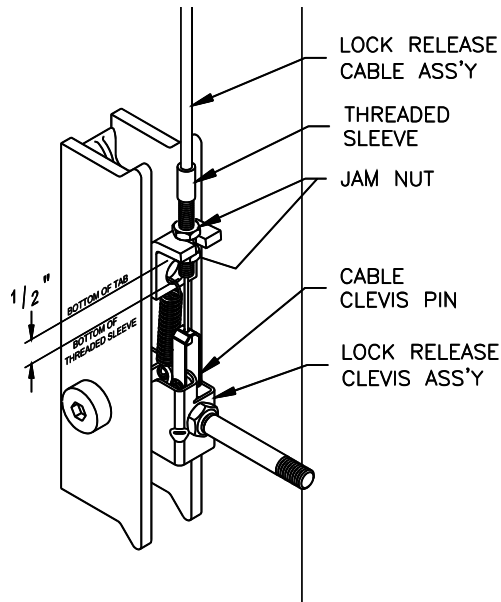

Fig 10 – Power Column Lock Assembly
- 27) Attach Mechanical Lock Release Cable Assembly to Power Column Lock Release Clevis using the 3/16" diameter x 1/2" long pin and (2) "C" clip retainers, **Fig 10**.
- 28) Insert threaded sleeve portion of cable assembly in slot located on tab above locking pawl, **Fig 10**. One jam nut should be located on each side of tab. Position threaded sleeve with 1/2" of thread below tab as indicated in **Fig 10** and tighten jam nuts.